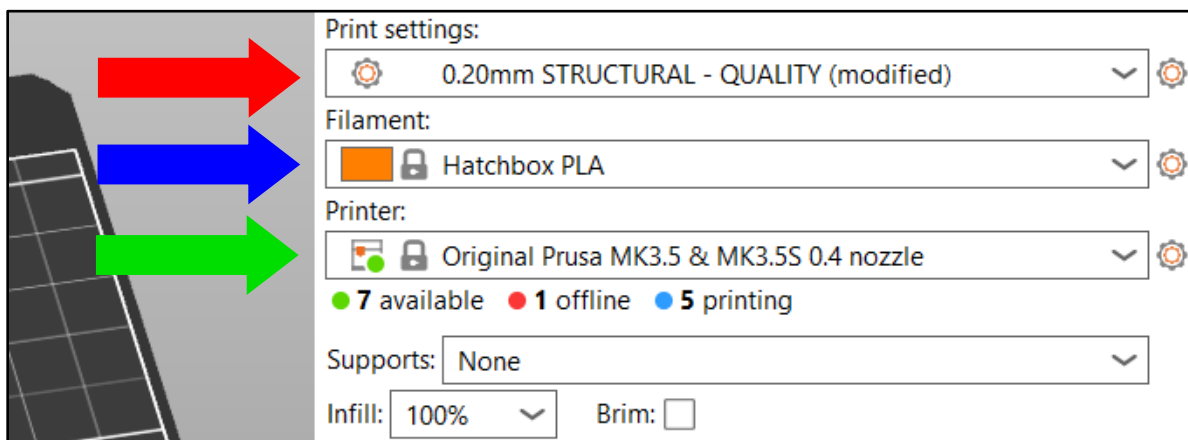

Figure 3. Main Plate Settings.
4.) Go back to the “Plater” tab in the top left corner of PrusaSlicer. Then click the “Print settings” drop-down menu and select the 0.20mm Structural option (see red arrow in Figure 3).
5.) Open the Filament drop-down menu (see blue arrow in Figure 3) and select the filament type you want to print in.
6.) Open the Printer drop-down menu (see **green** arrow in Figure 3) and select your printer make and model.